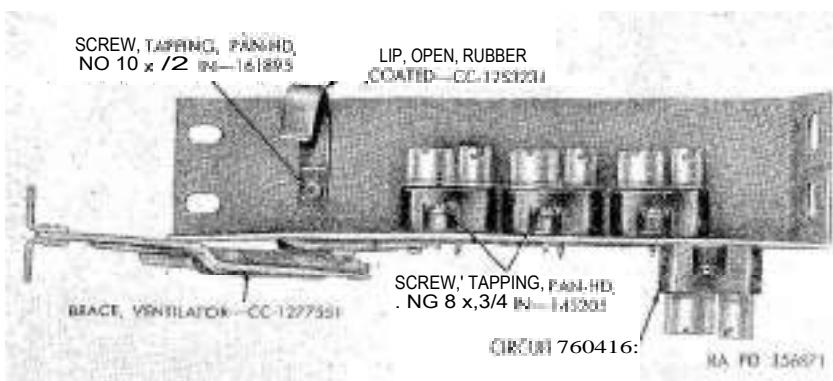
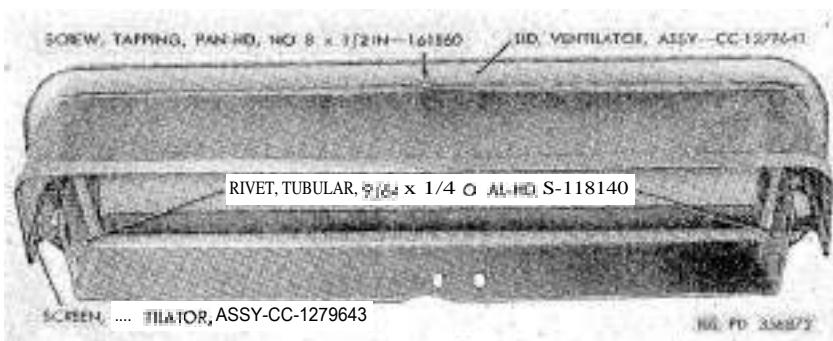
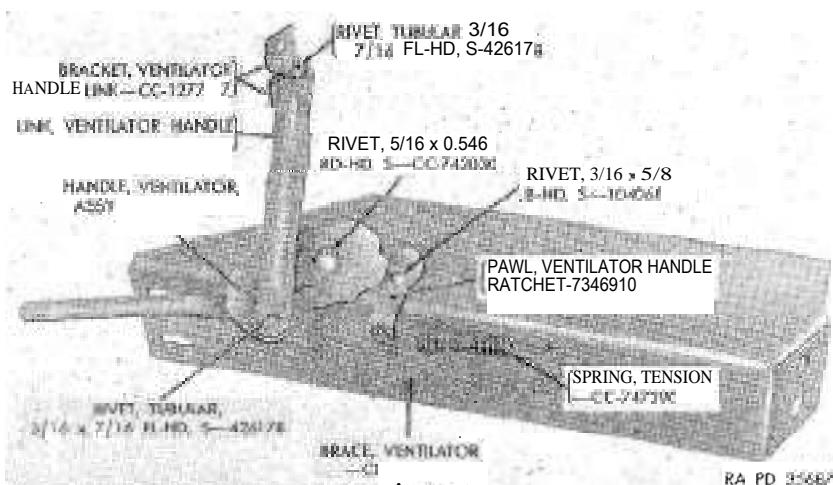

Figure 198. Link with brace assembly, circuit breakers, and clip.
Figure 199. Ventilator lid assembly.
Figure 200. Link with brace assembly.
b. *Remove Circuit Breakers and Clip From Ventilator Brace Assembly* (fig. 198).
- (1) Remove tapping screws. This will release the circuit breakers from ventilator brace assembly.
- (2) Remove tapping screw. This will release rubber coated open clip from brace assembly.
c. *Remove Cowl Ventilator Screen Assembly From Ventilator Lid Assembly* (fig. 199) . Remove tapping screw and two rivets. This will release the cowl ventilator screen assembly from the ventilator lid assembly.
d. *Remove Ventilator Handle Assembly and Ventilator Handle Ratchet Pawl From Ventilator Brace Assembly* (fig. 200) .
- (1) Remove tension spring.
- (2) Grind ends from rivets and drift rivets from brace assembly. This will release the ventilator handle assembly and ventilator handle ratchet pawl. If it is necessary to replace the handle assembly, remove rivet, which connects ventilator handle link to the handle. This can be accomplished with a punch and hammer.
- (3) Support ventilator handle link and drive rivet from ventilator handle link brackets and link with a punch and hammer.
- (2) Inspect ventilator screen assembly (*fig. 199*) for corrosion, holes, distortion, or broken brackets. If any of these conditions exist, replace screen assembly.
- (2) Inspect ventilator handle link and ventilator handle link brackets for corrosion, distortion, or cracks. If replacement is necessary, repairs can be accomplished by installing a new link with brace assembly, ventilator handle link (*fig. 200*), or ventilator handle link brackets (*fig. 200*).
d. Inspect Ventilator Handle Assembly and Ventilator Handle Ratchet Pawl (fig. 200).
- (1) Inspect ventilator handle assembly for broken welds, corrosion, damage, worn or loose rivet. If the weld between handle and ratchet is broken, satisfactory repairs can be accomplished by rewelding handle to ratchet. Replace rivet if it is loose or worn. If parts are damaged by corrosion, replace link with brace assembly or install a new ventilator handle assembly.
- (2) Inspect ventilator handle ratchet pawl for wear, loose or worn rivet, or corrosion damage. If rivet is loose or worn, install new rivet. If pawl is damaged by corrosion, repairs can be accomplished by installing a new link with brace assembly or a new ventilator handle ratchet pawl.
a. Install Ventilator Screen Assembly (fig. 199).
- (1) Position ventilator screen assembly on ventilator lid assembly. Install No. 8 x $1\frac{1}{3}$ pan-head tapping screw, but do not tighten.
- (2) Install one 9/64 x 1 $\frac{1}{4}$ oval-head steel tubular rivet through each screen-bracket and lid deflector. Set rivets with a rivet punch. Tighten screw.
b. Assemble Parts on Ventilator Brace (fig. 200).
- (1) Position ventilator handle link brackets on short offset end of ventilator handle link and insert a 3/16 x 7/16 flat-head steel tubular rivet. Set rivet with a rivet punch.
- (2) Insert a 3/16 x 7/16 flat-head steel tubular rivet through ventilator handle assembly from handle side. Position No. 10 plain washer over rivet followed by ventilator handle link, embossed side of link away from handle to prevent interference. Set rivet with a rivet punch.
- (3) Place ventilator handle assembly on brace with link and handle toward tapered end of brace. Insert a 5/16 x 0.546 round-head steel rivet with head on handle side. Set rivet and exercise care to prevent binding of handle.
- (4) Place ventilator handle ratchet pawl on brace so that pawl indexes with ratchet on handle. Insert a 3/16 x $5\frac{1}{8}$ button-head steel rivet with head on pawl side. Set rivet and exercise care to prevent binding of pawl.
- (5) Install ventilator tension spring to pawl and brace.
- (6) Position one of the circuit breakers on handle side of brace assembly (fig. 198). Install two No. 8 x $3\frac{1}{4}$ pan-head tapping screws and tighten.
- (7) Position other circuit breakers on inside surface of brace assembly (fig. 198). Install two No. 8 x $\frac{1}{2}$ pan-head tapping screws in each circuit breaker and tighten.
- (8) Position rubber coated open clip on brace assembly (fig.